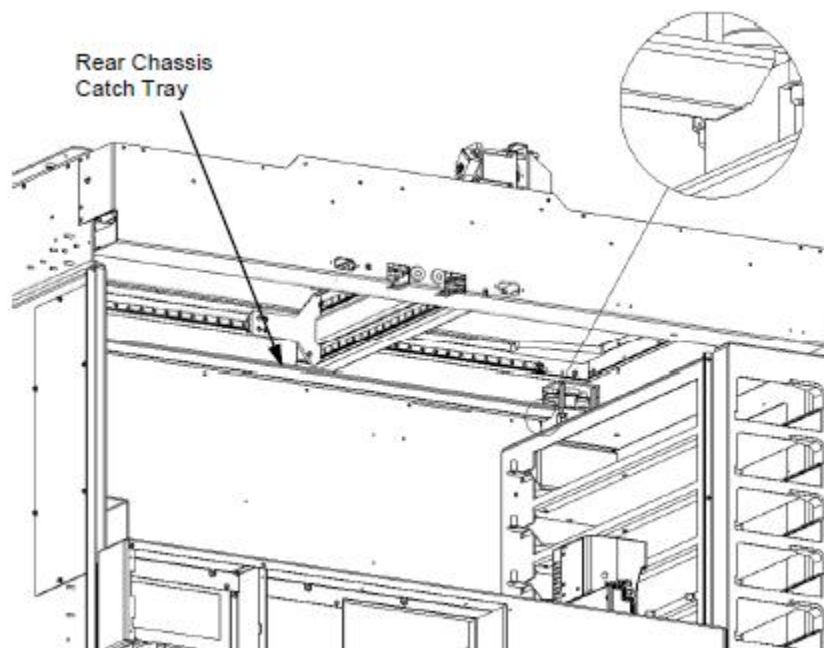

Figure X-30: Securing the Rear Chassis Catch Tray
12. Secure the Rear Chassis Catch Tray (to the Rear Chassis as shown using seven M3 Nyloc Hex Nuts) and seven M3 Washers (Figure X-30).